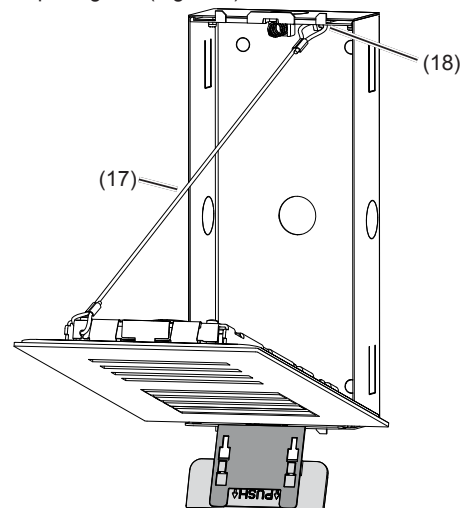

Figure 6: Installation position of door station
- (15) Opening tool
(16) Fixing element
- Attach the loops of the safety rope (17) to the upper left suspension of the door station and to the upper fastening element (18) in the housing. Place the door station for installation onto the opening tool (Figure 6).